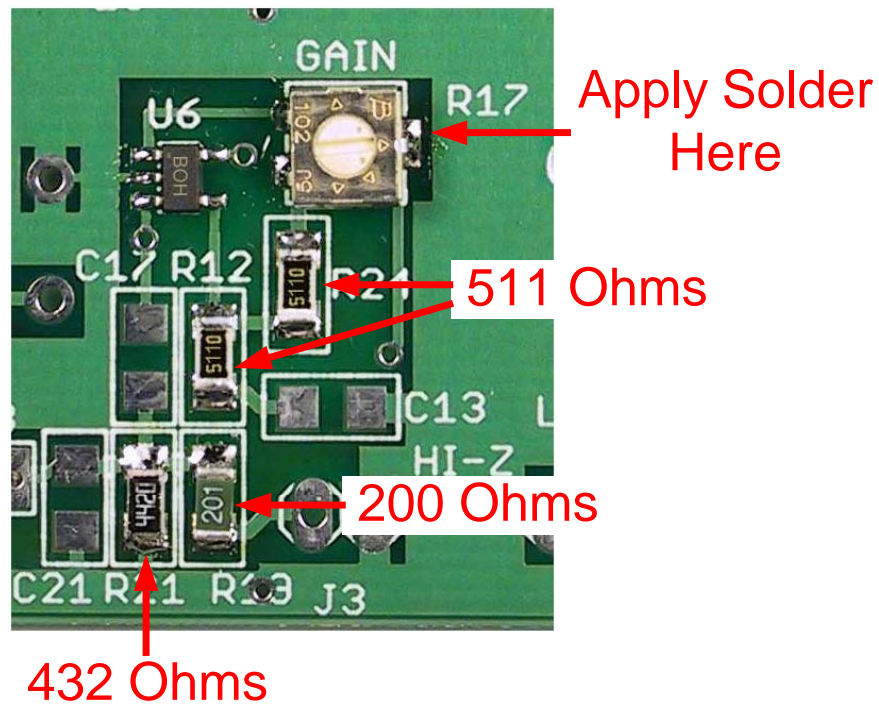
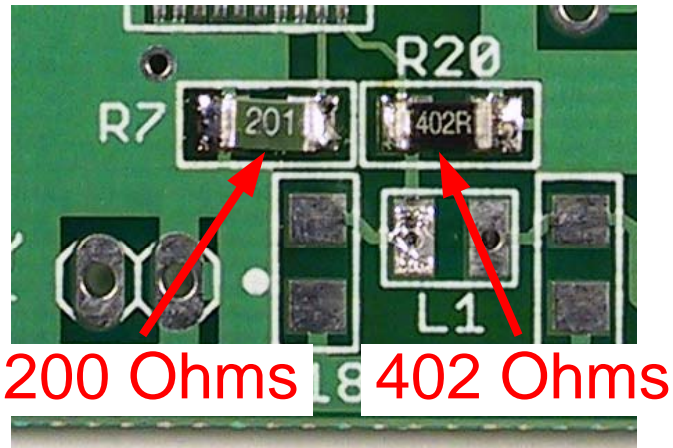

Figure 14. R12, R19, R17, R21, R24 Locations
Figure 15. R7, R20 Locations
- Remove the strip of 511 Ohm resistors from the resistor compartment. These are marked either 5110 or 511R. Refer to **Figure 14**. Install them at:
- Remove R21, 432 Ohm resistor from the resistor compartment. It is marked either 4320 or 432R. Refer to **Figure 14**. Install it at R21.
- Remove R17, 2K pot, from the resistor compartment. Refer to **Figure 14**. Apply some solder to the pad closet to the **R17** silkscreened legend. Grasp the
- Remove the strip of 200 Ohm resistors from the resistor compartment. These are marked either 201 or 200R. Refer to **Figure 14** for the location of R19 and **Figure 15** for the location of R7. Install these resistors at:
- Remove R20, 402 Ohm resistor, from the resistor compartment. It is marked 402R. Refer to **Figure 15**. Install it at R20.